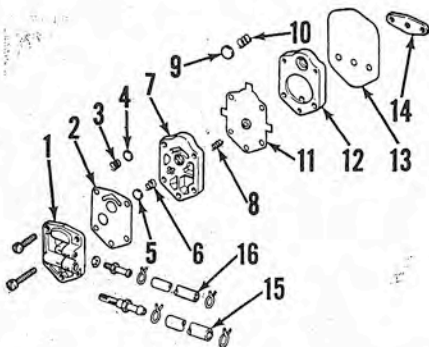

Fig. J13—Exploded view of fuel pump typical of the type used on some late motors.
FUEL PUMP. Some late motors are equipped with a diaphragm type fuel pump as shown in Fig. J13. Pressure and vacuum pulsations in the upper crankcase are directed through a passage to one side of the pump diaphragm (11). Vacuum in the crankcase draws the diaphragm inward as shown in View "A," Fig. 12. This diaphragm movement draws fuel past the inlet check valve (5) as shown by arrow. As piston moves downward in cylinder (View "B") pressure is introduced to the back side of the diaphragm, forcing fuel out past the outlet check valve (4) as shown.
All defective or questionable parts should be renewed. Diaphragm (11—Fig. J13) should be renewed if air leaks or cracks are found, or if its condition is in any way questionable.